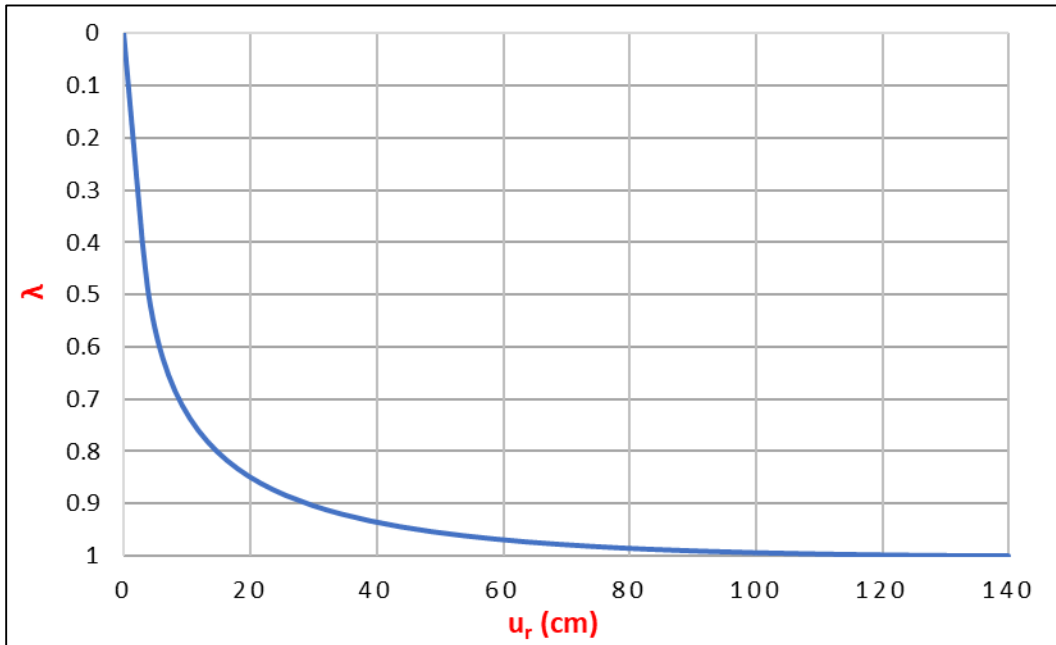

Figure 2. Convergence-confinement curve, based on Carranza - Torres (2004) method.
- Using the RocSupport – Rocscience software and based on the Carranza - Torres (2004) convergence – confinement method, the convergence-confinement curve ($\lambda - u$) calculated and is presented on the following Figure 2. In order to take into account the coefficient of the horizontal stress (K_0) in the in-situ field stress (p_0), the in-situ field stress (p_0) can be calculated by the following formula: